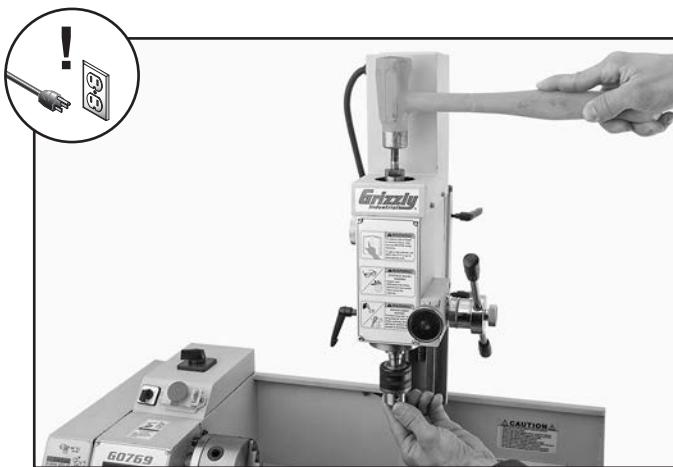

Figure 114. Tapping drawbar to unseat tool taper.
5. Tap top of drawbar with hammer to unseat taper (see **Figure 114**).